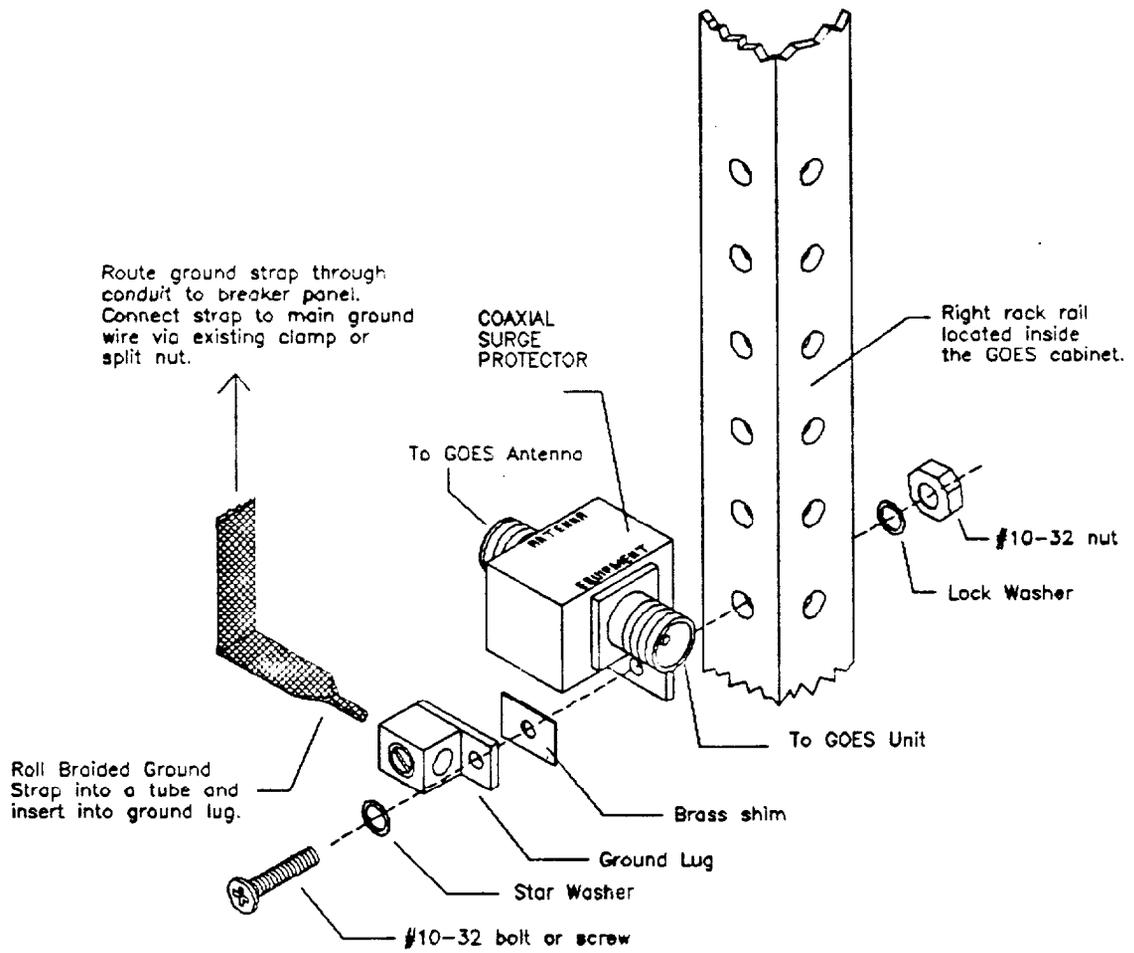

Figure 2
14. Mount the PolyPhaser coaxial surge suppressor on the right rail using the 10-32 hardware as shown in figure 2. Install the suppressor with the ANTENNA port pointing to the back of the box and the EQUIPMENT port pointing toward you. The lettering on top of the suppressor should be clearly visible. Mount the suppressor as low as possible within the 12" length of the RG-8 coax cable between the suppressor and the TRANSMITTER OUTPUT (31) of the 3422A GOES Transmitter.
15. Cut the flat braid long enough to reach the surge suppressor with a little slack and screw it to the #4 lug. Avoid loops or twists in the braid. Connect the lug directly to the surge suppressor as shown in figure 2.